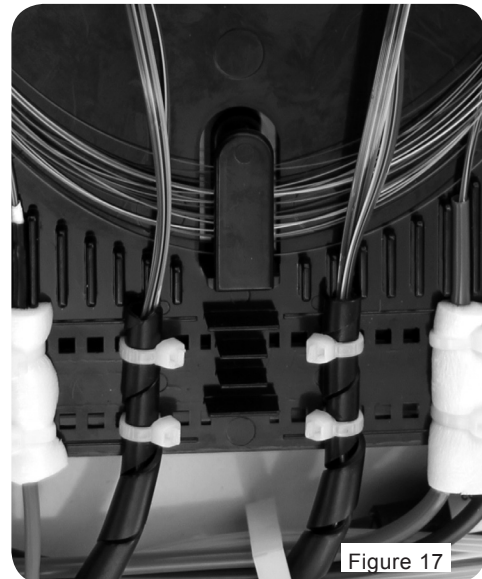

Figure 17
*** Note: For best practice it is recommended that all ribbon fiber to be spliced is mounted towards the center of the splice tray. (Figure 17) Also by placing the mass fusion splice chip in the center of the tray it will allow the loose tube bare fibers to be routed around the outside of the splice tray with minimal interference from the ribbon fiber.**